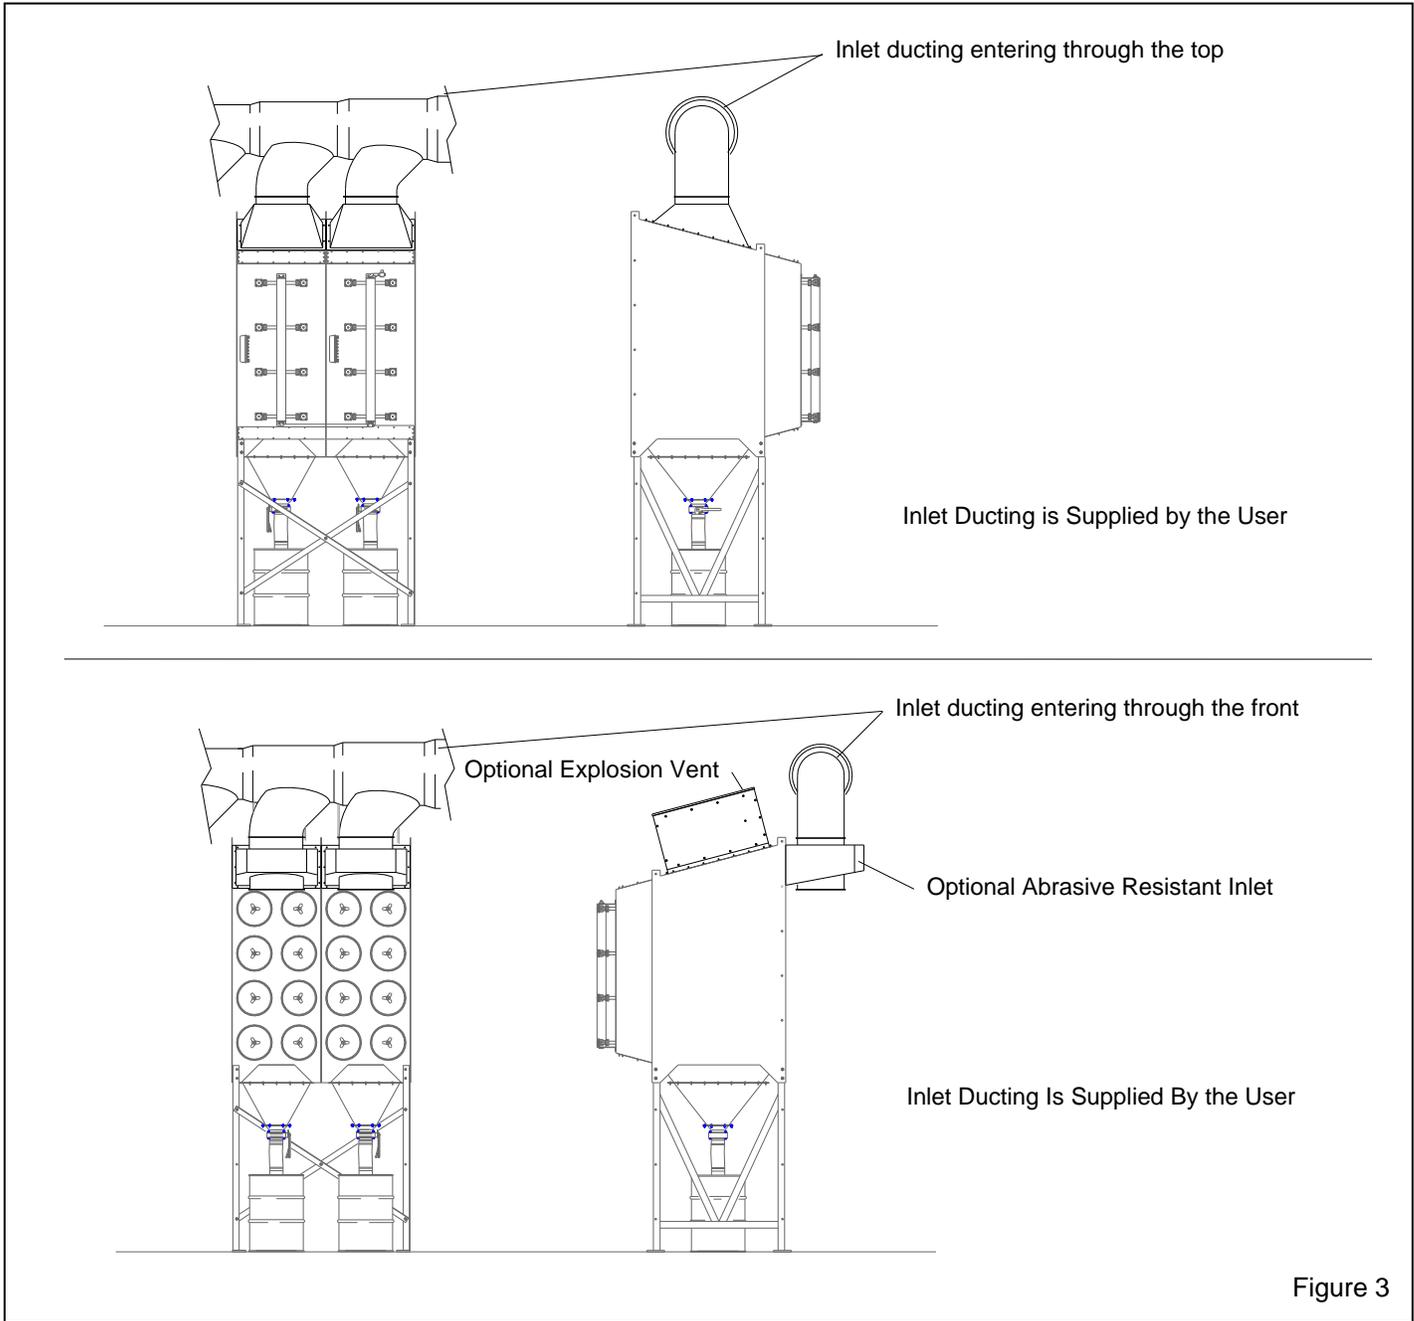

Figure 3
2.6.4.1 The illustrations in Figure 3 show typical inlet ducting. The illustrations are for reference only, and are not to be used to fabricate ducting.